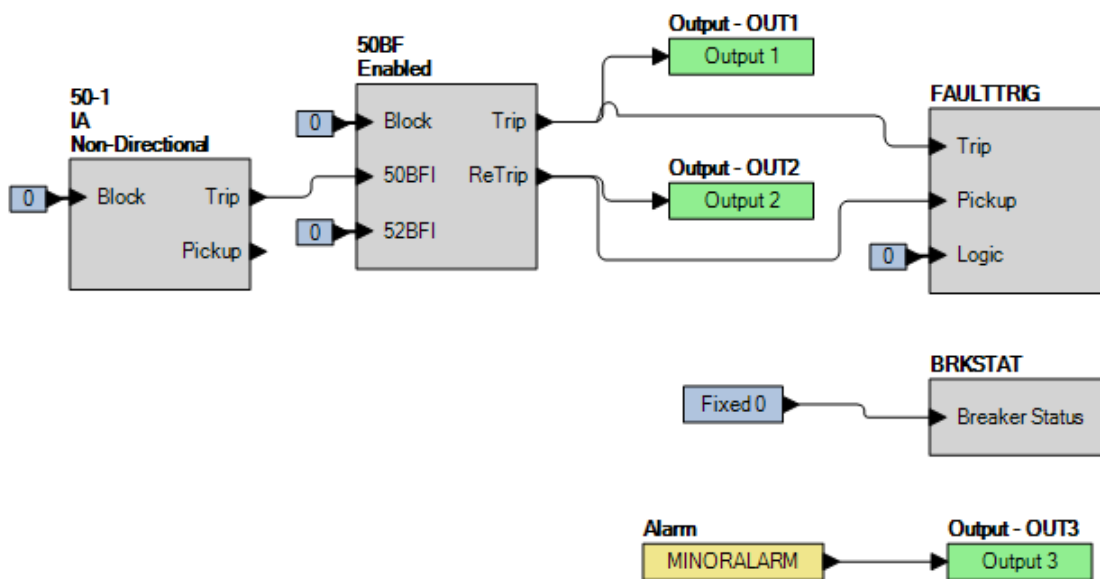

Figure 73-2. BESTlogicPi+ Settings (BFI50 Current Supervised BE1-11g Trip Initiate)
Step 8: Use BESTCOMSPi+ to configure the BESTlogicPi+ programmable logic shown in Figure 73-2.